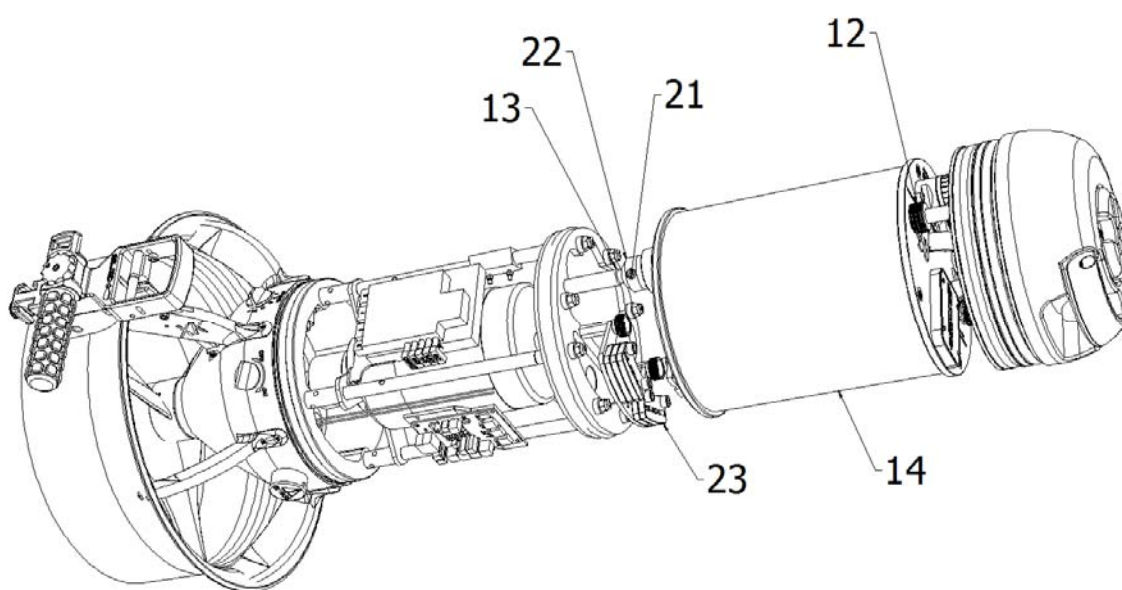

Figure 7 (view of the ADV without the external case)
The ADV should have **NEUTRAL** buoyancy *and be practically horizontal (neutral trim)* meaning it should not sink but remain stable at the desired depth. The scooter is supplied neutrally buoyant or slightly float in fresh water. Additional weights (23), are provided to compensate for differences between use in fresh or sea water (see fig. 7) consisting in a stainless steel cylinders that should be included or removed according to whether the ADV is used in fresh water (NOT USED) or seawater (USED).
Proceed as follows to insert the ballast (23): (see fig. 7)
As for trim, you can change factory settings by moving the battery along the rods (13) (see fig.7). Remove the battery, loosen the nut (21) with a 4 mm Allen key, unscrew or screw in the ring nut (22); screwing it in, the ADV tends to position itself with the rear sinking, unscrewing it causes the opposite. Screw in the nut (21) without overtightening, replace the battery and try the ADV in the water until the desired settings are reached.
Speed can be regulated slow or fast, see the previous paragraph fig. 7.